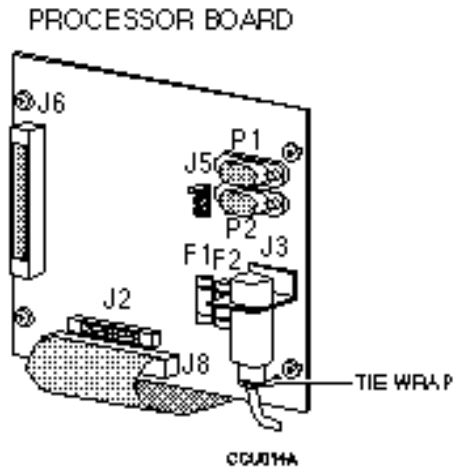

Figure 3-2. CCU Fuse Location (F1, F2)
4. Refer to Figure 3-2 and locate the two fuse holders (F1 and F2) next to the Power input on the CCU processor board.
2. Pass a tie-wrap through the holes on the CCU Processor circuit board and around the DIN connector. Refer to Figure 3-2 for location. Tighten the tie-wrap.